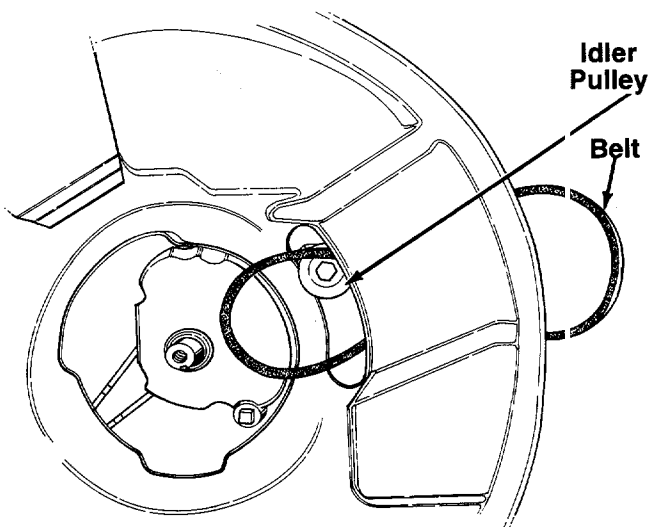

FIGURE 27.
- Push the idler pulley up out of the way as shown in figure 27.
- Slide the belt in from the rear of the deck, and place it around the transmission pulley. See figure 27.